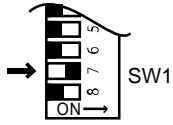

Fig. 3
9. Set the Rinnai Water Heater to 'Forced Low' combustion by setting No.7 dip switch of the (SW1) set of dip switches to 'ON'.(Fig.3).